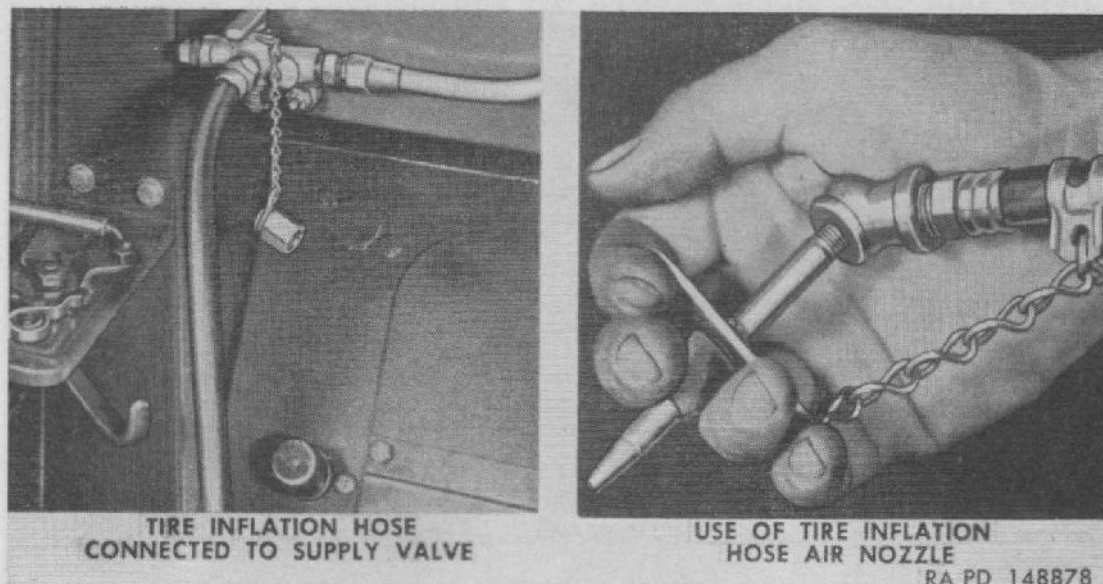

Figure 139. Use of tire inflation hose.
- (1) Before tires are inflated to correct pressure, each tire should be gaged for pressure loss. If any appreciable loss is noted in a tire, that tire should be dismounted and examined for cause of pressure loss. When making pressure loss check, use the same gage on all tires so that any element of inaccuracy in the gage will be the same for all tires.
- (2) Tires should be inflated to 70 psi for operation on hard-surfaced roads, and to 35 psi for cross-country operation. Pressure in all tires must be the same; unequal pressures will affect braking and steering. Use tire inflation hose (*b* below).
b. USE OF TIRE INFLATION HOSE (fig. 139). Two air supply valves are provided, one at extreme right and another at left side of dash panel inside cab, adjacent to cowl side ventilators (fig. 139). Supply valves are connected to vehicle air system through junction fitting at center of dash panel. Two tire inflation hoses are provided in vehicle tool kit. Remove cap from supply valve at either side and thread hose fitting onto valve. Open valve